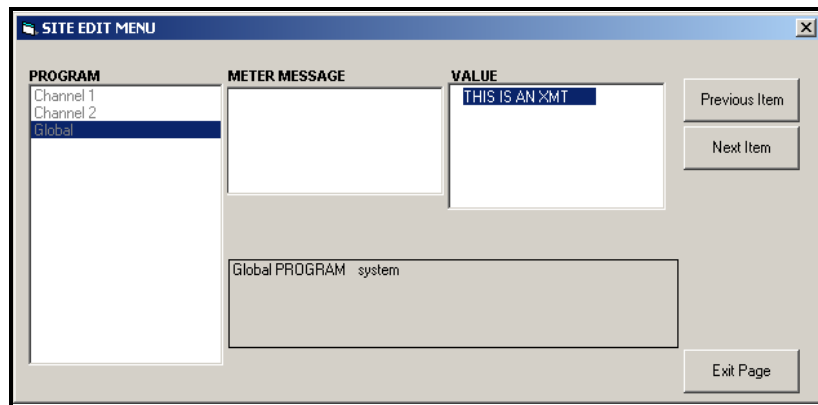

Figure C-14: The System Option in the Global Menu
2. Highlight and double-click on the System option in the center pane. The window now appears similar to Figure C-14 below.